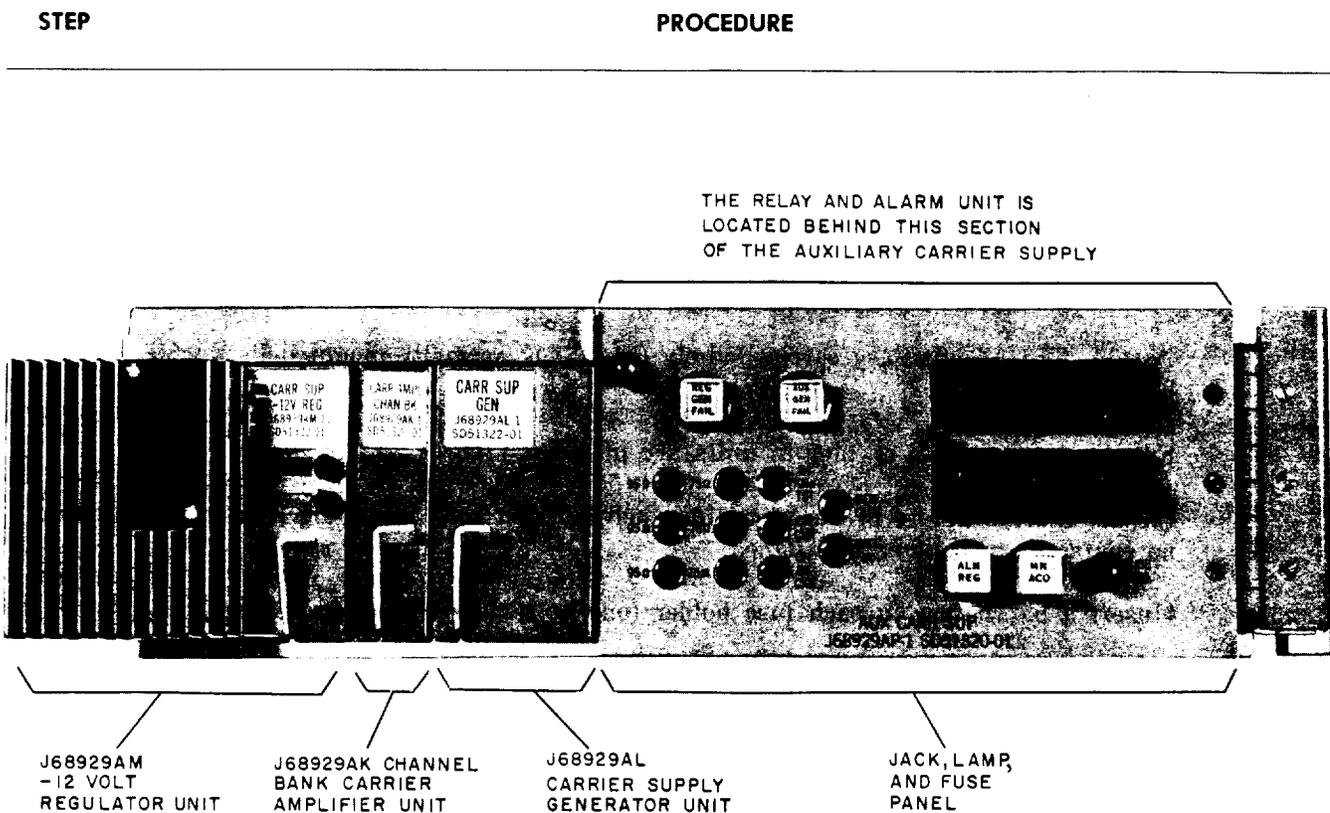

Fig. 6—J68929AP Auxiliary Carrier Supply
Note: The A6 auxiliary carrier supply (Fig. 6) is normally mounted in a miscellaneous bay.
- 8 (a) Insert the J68929AL carrier supply generator unit (Fig. 6).
- 10 Insert the J68929AM carrier supply -12 volt regulator (Fig. 6).
14	Insert the J68929AK channel bank carrier amplifier unit (Fig. 6). Requirement: No fuses blow.